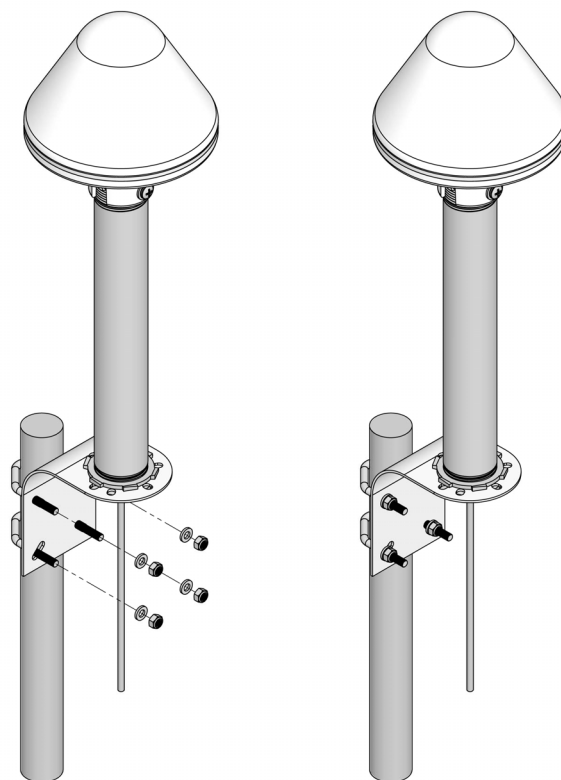

Figure 2-13 • Mounting SyncServer S80 to a Mast
13. If mounting the SyncServer S80 to a mast, attach the mounting bracket to the pole with the included U-bolts, as shown in Figure 2-13.